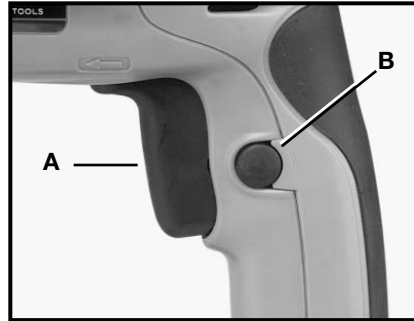

Fig. 2
2. Squeeze the TRIGGER SWITCH (A) Fig. 2 to start the motor. Release the trigger to stop the motor.
3. A lock button (B) Fig. 2 is provided to keep motor running without holding the trigger switch "ON".